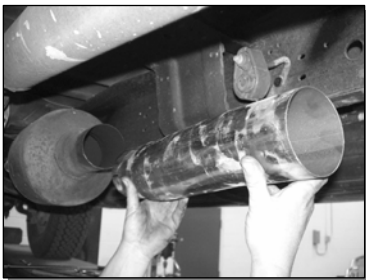

Figure 7
4. Install the **Extension Pipe** over the catalytic converter. **See Figure 7.**